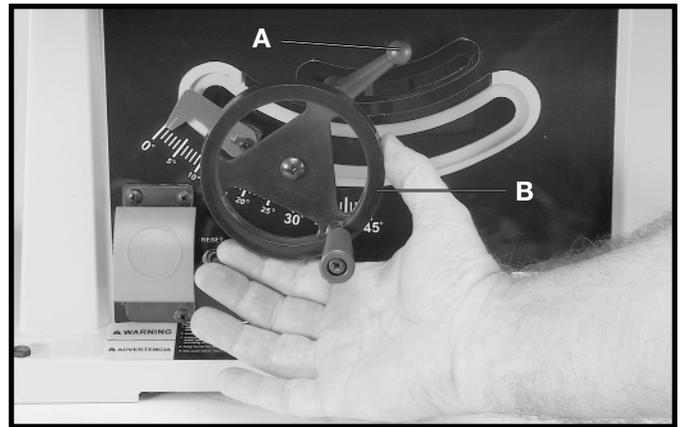

Fig. 40
To tilt the saw blade, loosen blade tilting lock handle (A) Fig. 40, move handwheel (B) until the blade is at the desired angle and tighten lock handle (A). **NOTE:** The lock handle (A) is spring-loaded and can be repositioned by pulling out on the handle (A) and repositioning it on the serrated stud located underneath the handle.
**⚠ WARNING** THE BLADE TILTING LOCK HANDLE (A) MUST BE LOCKED DURING ALL CUTTING OPERATIONS.